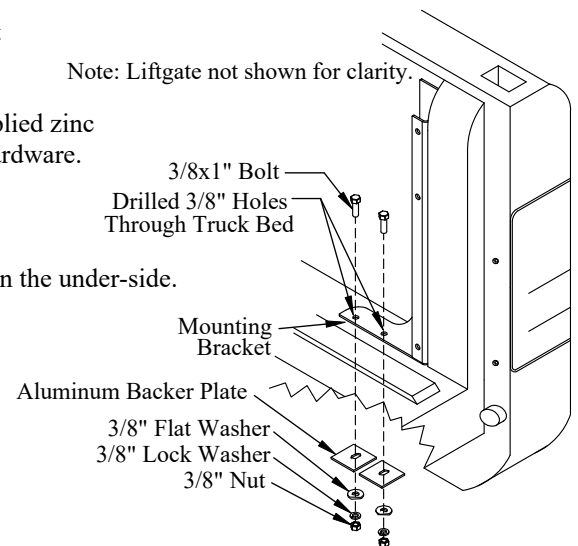

Figure 9: Mounting bracket and backer plates.
9. **Fasten** each bracket to the truck box using the supplied (Figure 9):